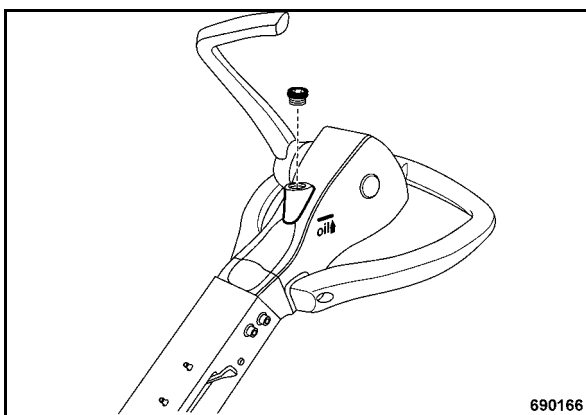

Fig. 74
- Adjust the steering rod with height adjustment (Fig. 74) so that the area with the level inspection plugs is horizontal.